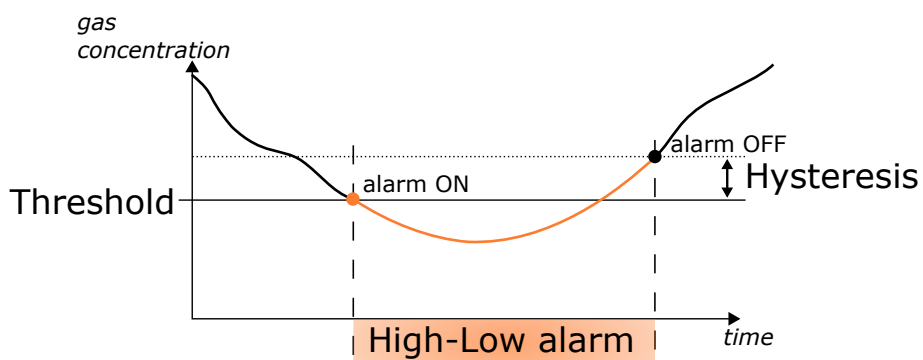

Figure 7.11: Hysteresis behavior when setting the limit type High-Low
- **H/L**: Limit value switches on when threshold is undershot, it is switched off when threshold + hysteresis is exceeded, see Figure 7.11.